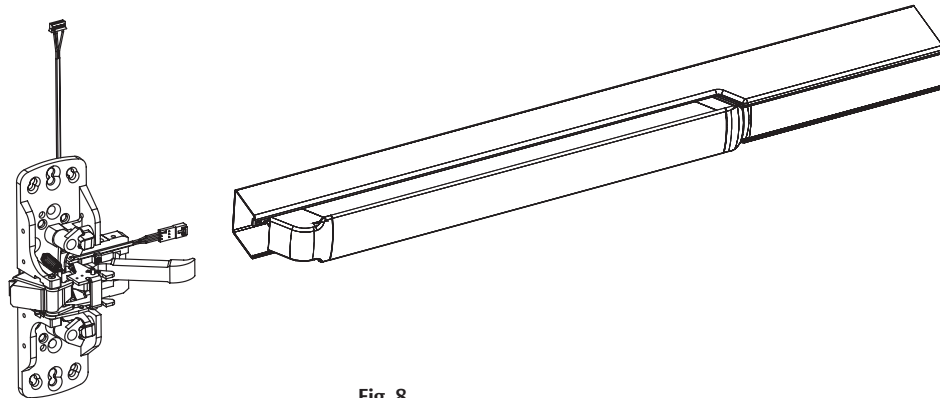

Fig. 8
4. Install rail assembly. (Fig. 8)